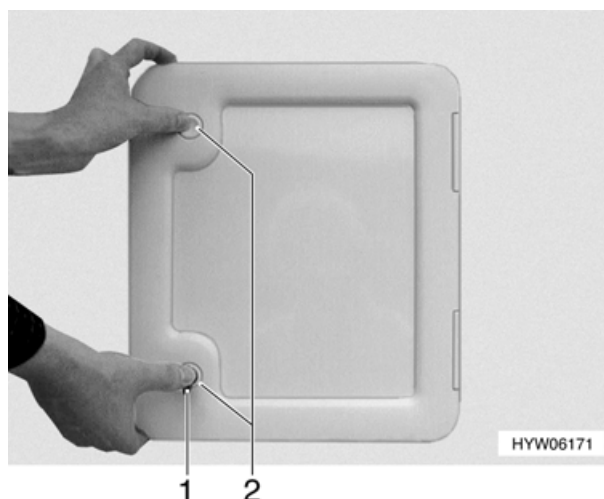

Fig. 89 Opening the Thetford flap
The flap for the Thetford cassette (Fig. 89) is located on the outside of the caravan:
- Open the push-button lock (Fig. 89,1) with the key.
- Press both push-button locks (Fig. 89,2) at the same time and open the Thetford cassette flap.